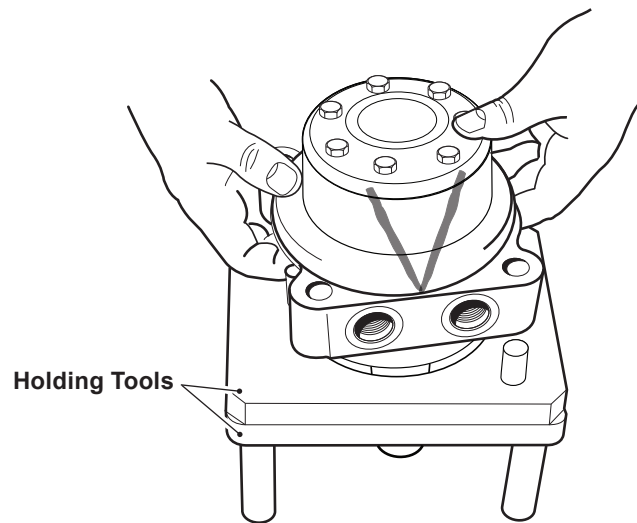

Figure 6, Service position
5. Place the HGM-C motor into a holding tool. See *figure 6*.